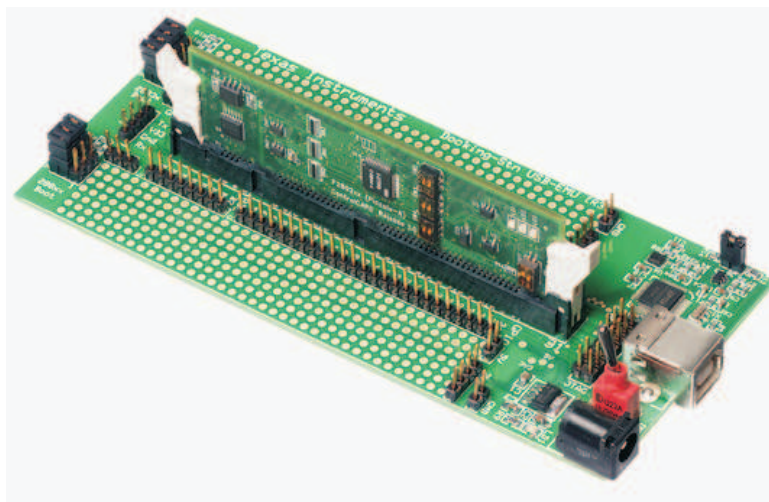

Figure 2. Retaining Clips
- Step 3. Sit the DIMM card loosely in the connector slot. Ensure to align the two keyed notches and position the card bottom corners inside the retaining clips (see Figure 2).